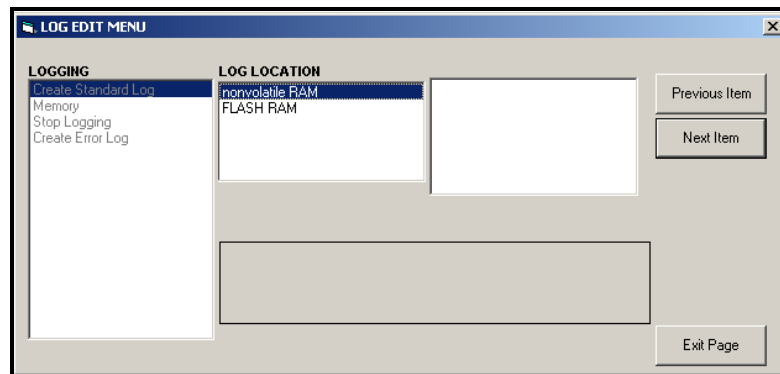

Figure 3-3: *Log Location* in the *Create Standard Log* Option
- a. Double-click on the *Create Standard Log* option. The window now appears similar to Figure 3-3 below.